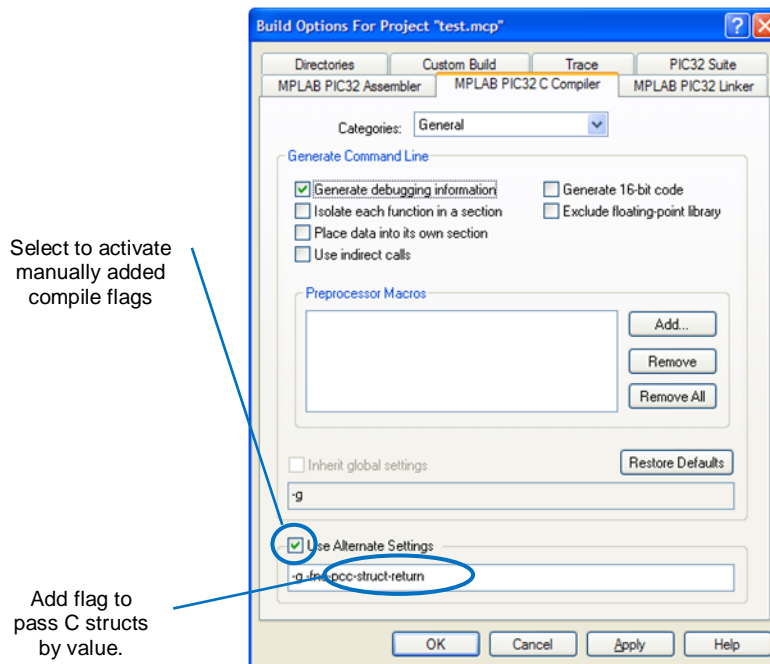

Figure 4: Struct parameter project setting for MPLAB8x
Open the applicable dialog through **Project - Build Options... - Project - MPLAB C32 Tab** and add the required flag according Figure 4.
*Setting flag **no-pcc-struct-return** requires use of alternate settings (checkbox "Use Alternate Settings" in the dialog shown in Figure 4. Activating alternate settings implies that changes to the project settings made in the regular way have to be manually copied to the same field where flag **-fno-pcc-struct-return** is contained in, in order to be persistent when closing this dialog.*